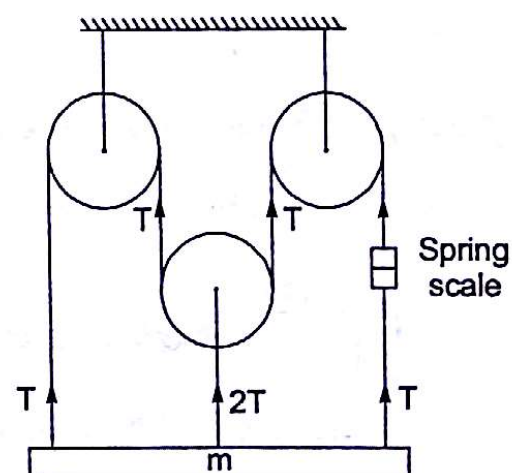

Fig. 3.69
3.16 A spring scale indicates a tension T in the right hand cable of the pulley system shown in Fig. 3.69. Neglecting the mass of the pulleys and ignoring friction between the cable and the pulley, the mass m is